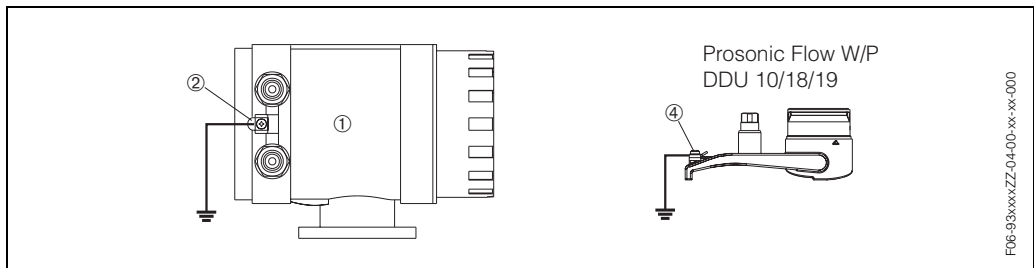

Fig. 2: Ground terminal for potential equalisation
7. The flowmeter must be integrated into the potential equalisation system (see Fig. 2).